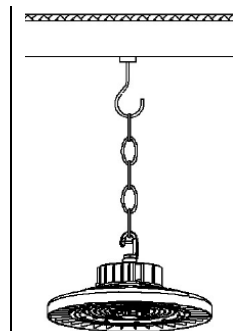

Fig. 3
3. Hang the fixture using suitable mounting chain (sold by others). Fig. 3.